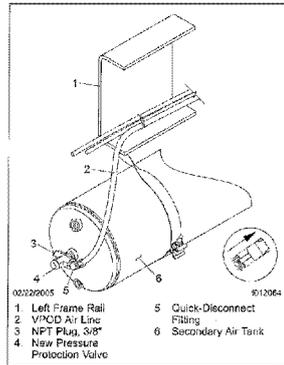

Fig. 3, New Location for VPOD Air Line
13. Loosen a suitable length of the VPOD air supply line and connect it to the new pressure protection valve. See Fig. 3.